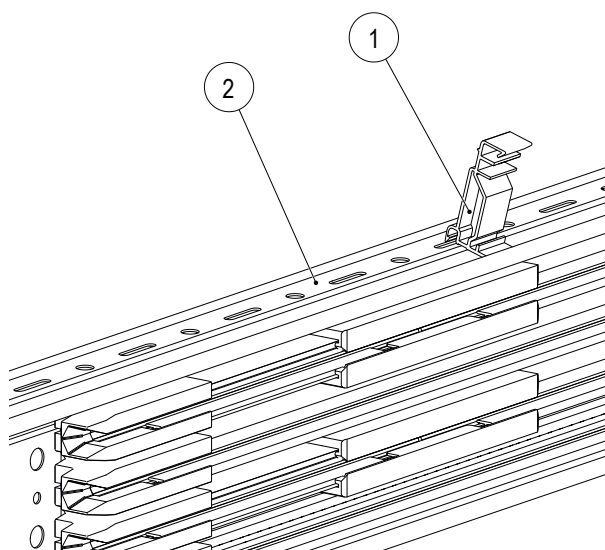
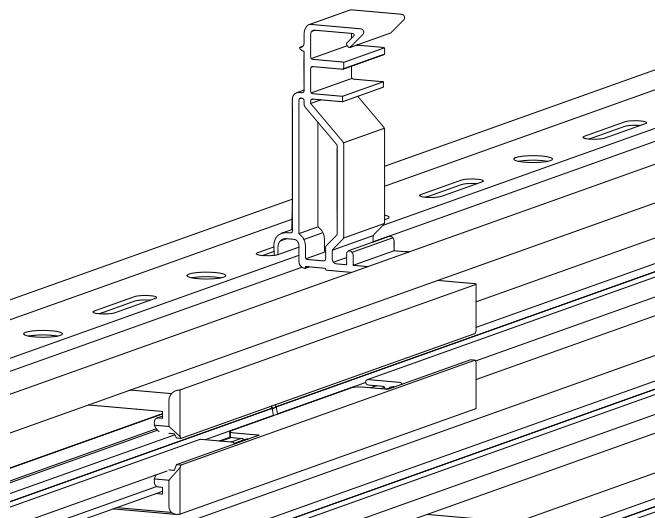

Fig. 39: Band bracket (1) in ProShell support profile (2)
Fig. 40: Band bracket is installed
1. Install the band brackets (1) in the groove of the ProShell support profile rail (2). Tilt the band bracket slightly and carefully clip it onto the slot on the ProShell support profile (top/bottom) (see Fig. 39 and Fig. 40).